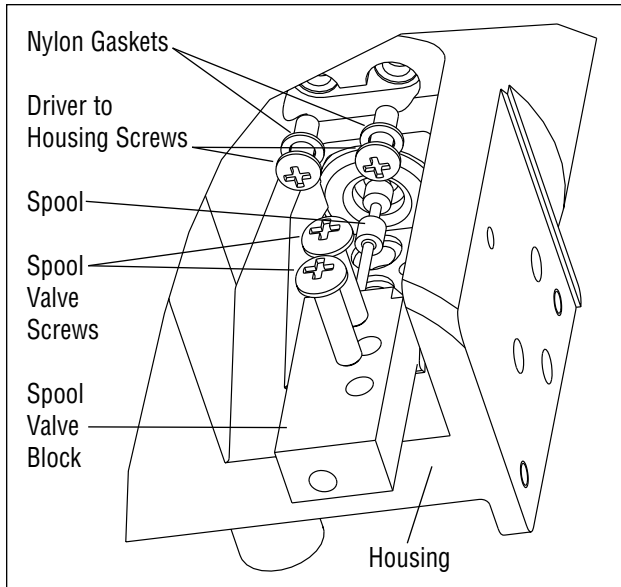

Figure 10: Spool and Block
5. Being careful not to lose the nylon washers, remove the two Phillips-head screws that attach the driver module to the main housing (Figure 10).
6. Remove the spool valve block by removing the two Phillips-head screws and carefully sliding the block off the spool (Figure 10).
14. Verify that nylon gaskets are in the counter bores in the driver module retaining screw holes as shown in Figure 10.
17. Verify that the three O-rings are in the counter-bores on the machined platform where the spool valve block is to be placed (Figure 10).
18. Carefully slide the block over the spool, using the machined surface of the housing base as a register (Figure 10). Slide the block toward the driver module until the two retaining holes line up with the threaded holes in the base.